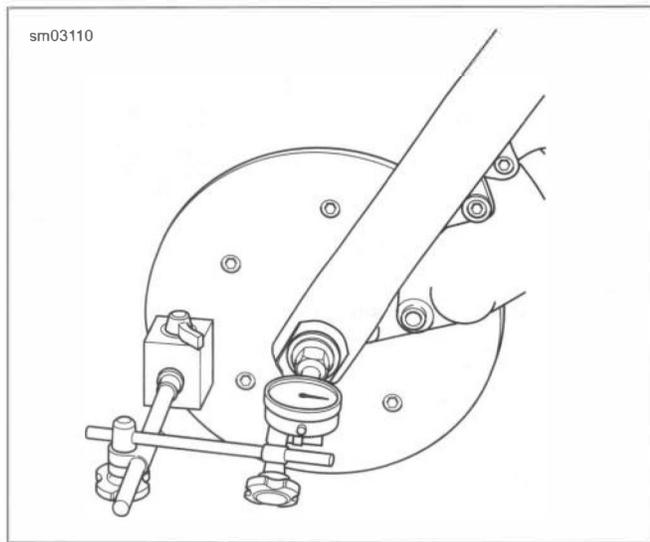

Figure 3-13. Measuring Lateral End Play (Front Wheel) (Typical)
- a. See Figure 3-13. Mount a magnetic base dial indicator to the brake disc. Set the indicator contact point on the end of the axle.